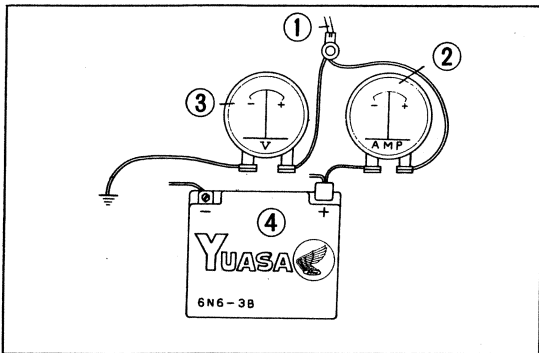

Fig. 150 Charging test
- 4) Start the engine and perform the following two tests in both the day and night operation mode. (Fig. 150)